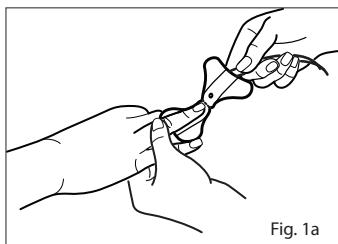

Fig. 1a
2. Refer to Fig. 1a. Orient the sensor so that the detector can be placed first. Place the tip of the finger on the dashed line with the fleshy part of the finger covering the finger outline and detector window.